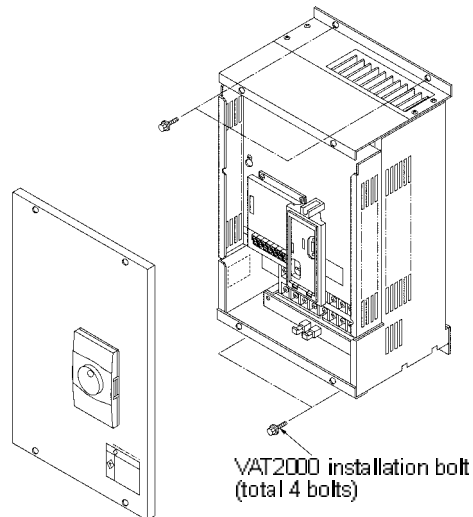

Fig 2.3
#### (2) N18K5, X22K0 and larger (Fig. 2.3)